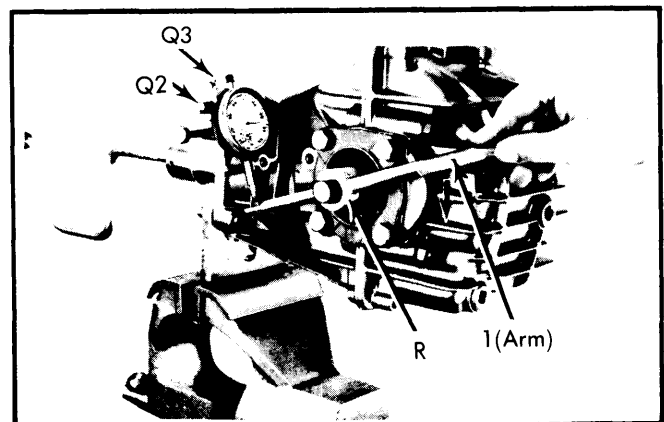

Fig. 19 Measuring Ring-to-Pinion Gear Backlash
15) Move assembly in vise to its normal upright position. Install backlash measuring tool R horizontally. Ensure one of the radial grooves in ring gear face is in line with double quotation mark (") of device. Lock central screw and install support rod Q2 in front upper housing. Mount dial indicator using holder Q3 so that dial indicator feeler (foot) is resting between two marks found on flat side of tool R and that feeler and tool R from a right angle. Turn pinion carefully clockwise to set dial indicator small hand to "5". Adjust dial indicator face to "0" while applying upward pressure on arm 1. See Fig. 19.